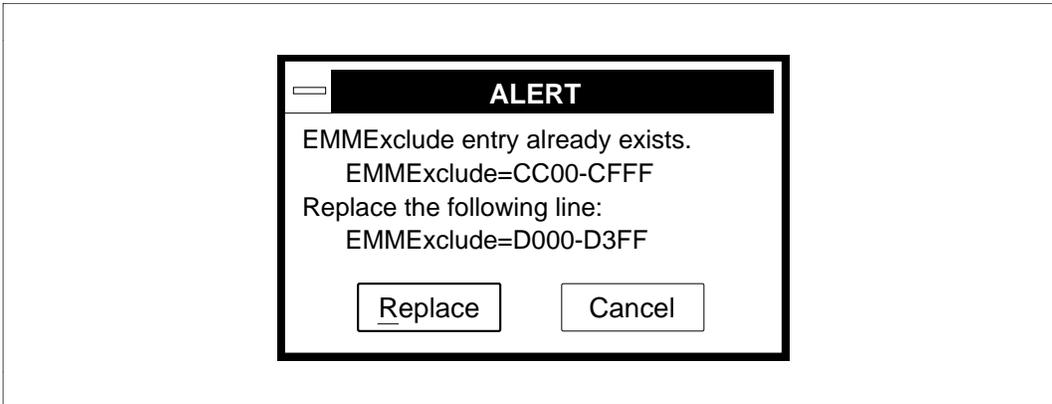

Figure 2-9 Dialog Box for Confirmation of Memory Address Specification Range Rewrite (INSTALL)
- (13) To add to the Windows system file SYSTEM.INI the memory address range for the IBM PC interface board, click the <Change> button. The file before adding the memory address is saved as SYSTEM.GUI. To terminate the installer program without changing the SYSTEM.INI file, click the <Cancel> button. In this case, change the SYSTEM.INI file using the procedure described in section 2.5, Modifying System Files.
(14) To add the memory address range for the IBM PC interface board, the EMMExclude parameter of the SYSTEM.INI file is used. If the memory address range has already been specified, a rewrite confirmation dialog box is displayed, as shown in figure 2-9. Select <Replace> or <Cancel> according to the operating personal computer.